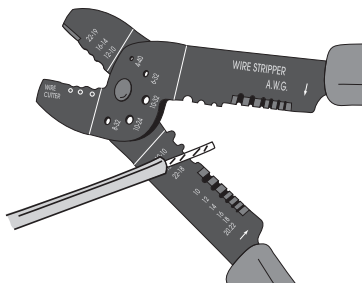

figure 10
1. Strip wires over 1 cm (1/2 inch) **(figure 10)**.